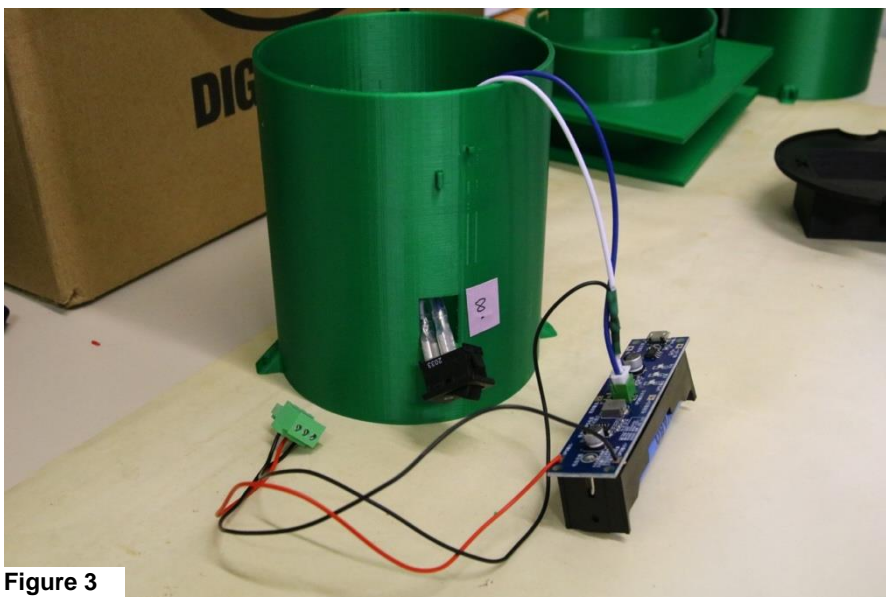

Figure 3
- Solder the connector to the battery module board and plug in the cables going to the rocker switch. The rocker switch itself can be connected later (see Fig. 3).